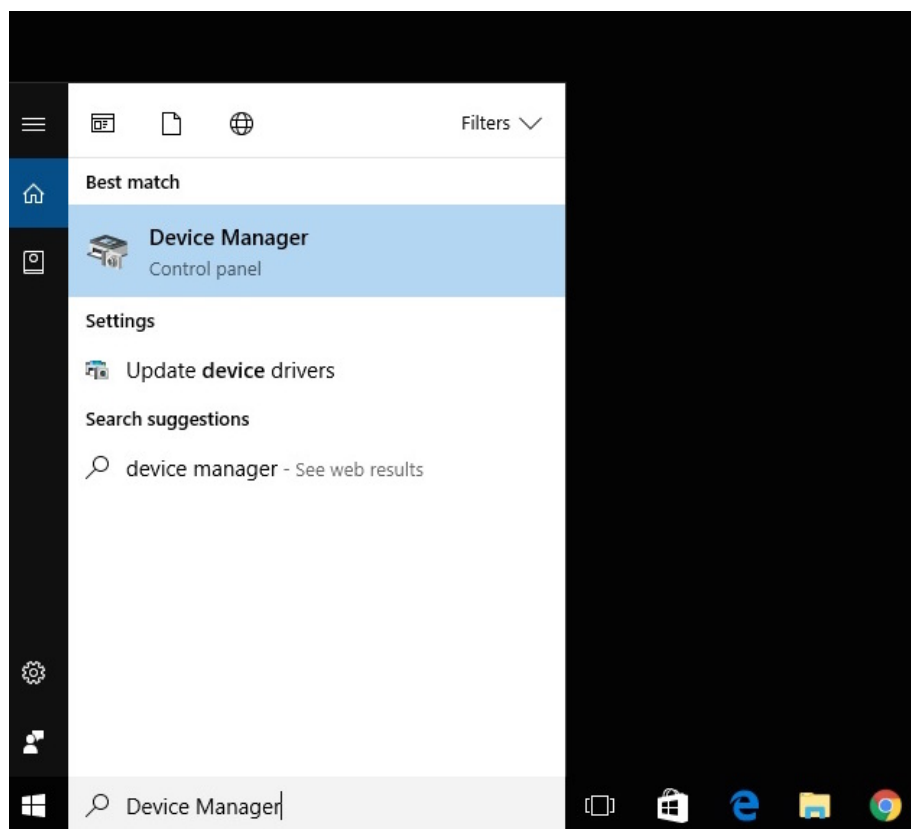
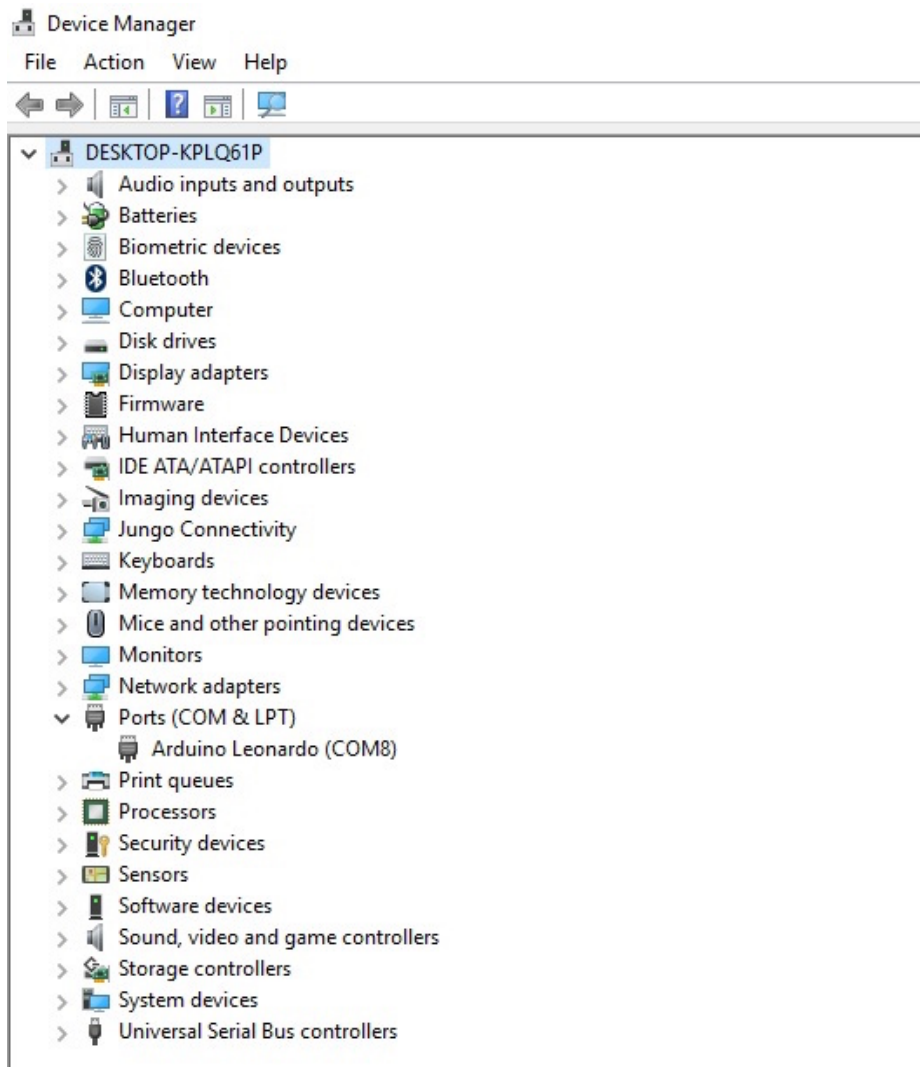

Fig. 10. COM port check on Device Manager (Win 10)
Fig. 11. USB - COM port, select XPOW-LD6AX (Leonardo)
- 8 Check the port connection on Device Manager (there should indicate the port for XPOW-LD6AX Leonardo COM port). (Fig. 10 and Fig. 11)